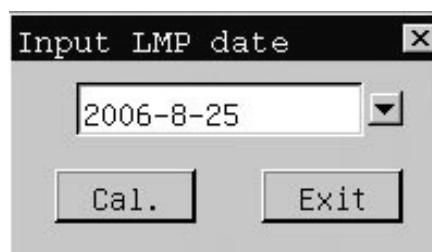

Fig.7-17 Dialog box for inputting LMP date
2. A dialog box-“Input LMP date” appears (see Fig. 7-17). Click  button to recall the calendar and select the LMP date from the dialog box-“Check Date”, move the cursor to [OK] button and press **【SET】** key to confirm the selected LMP date. Or input LMP date through the keyboard directly (**the date format should be YYYYMMDD**).